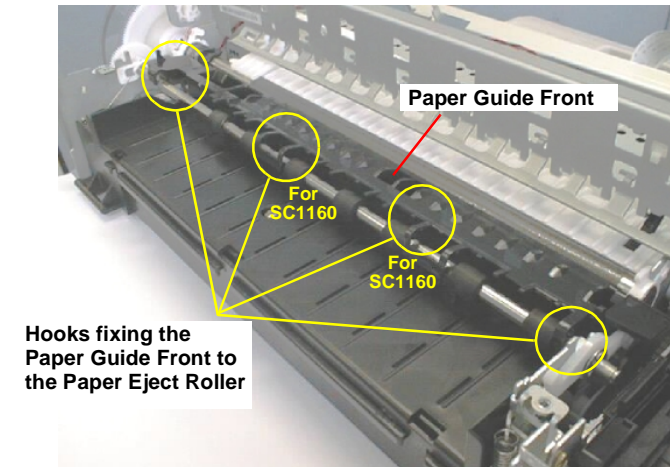

Figure 4-60. Removing the Paper Guide Front
- 12) Remove the Paper Guide Front by releasing the hooks (SC860: two hooks, SC1160: four hooks) from the Paper Eject Roller Shaft. Refer to Figure 4-60.